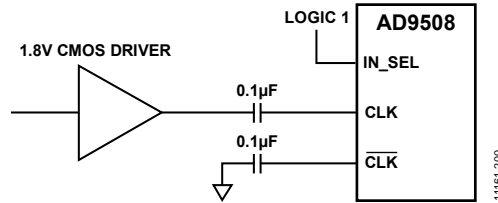

Figure 38. 1.8 V CMOS Logic Configuration for Input Clock Using Differential Mode
1.8 V CMOS logic levels are not recommended in a single-ended CMOS configuration due to  $V_{\text{IH}}$  being too close to the input threshold voltage. However, the differential input clock mode can be used for a 1.8 V CMOS input, and Figure 38 shows the recommended configuration for a 1.8 V CMOS input clock.
3 Refer to Figure 38 for configuration.